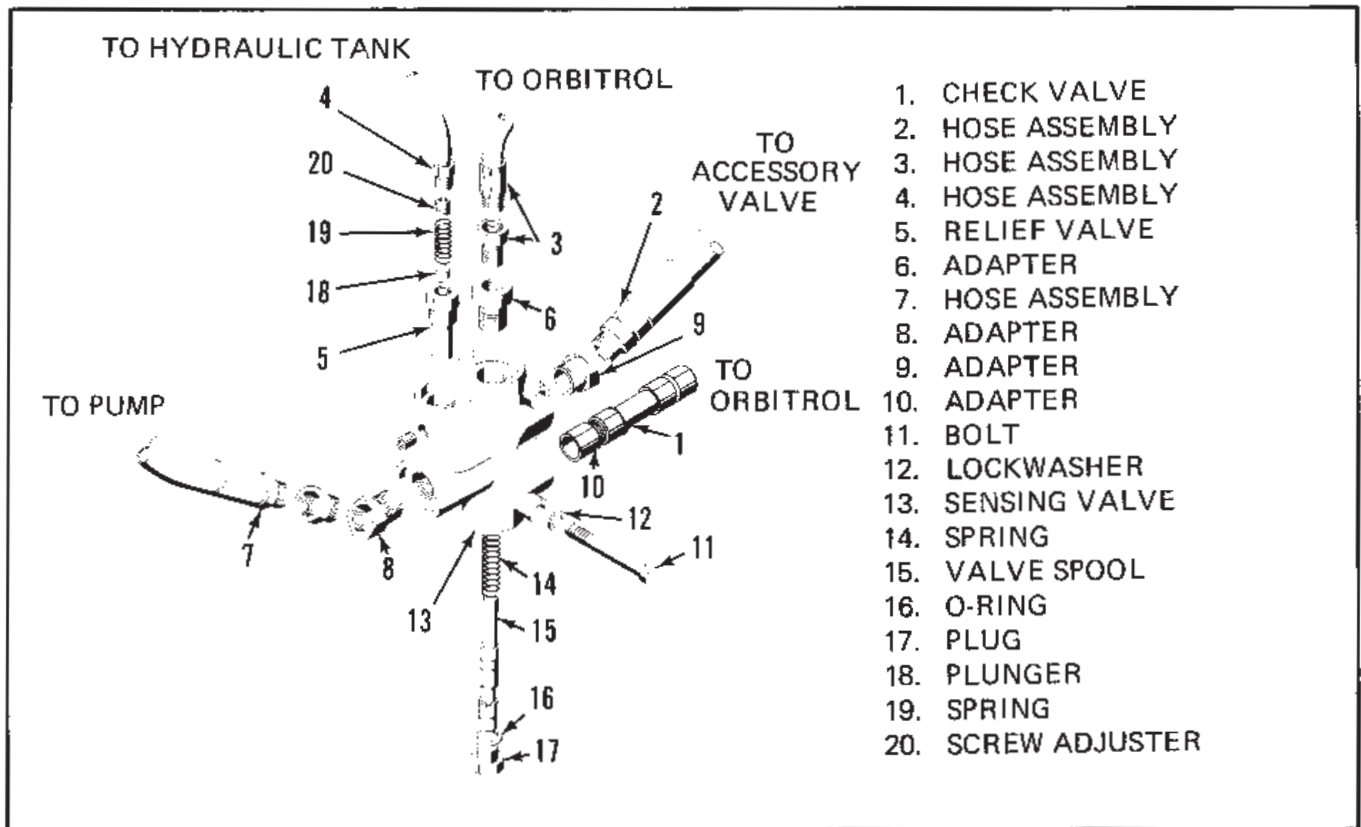

Figure 16-2. Steering Demand Sensing Valve
1. General. The Demand Sensing Valve performs the function of diverting oil to the steering orbitrol to perform the steering functions. When the steering wheel is turned, it causes a drop in the oil pressure in line (3) (figure 16-2). This permits the valve spool (15) to open allowing oil to be pumped directly to the steering orbitrol through line (1) where it is directed to the steer cylinders. When the steering wheel stops rotating the pressure in line (3) rises and closes the valve spool which shuts off the oil flow to the orbitrol and essentially locks the steer cylinders at their present position.
STEERING DEMAND SENSING VALVE (Figure 16-2).
- b. Remove bolts and lockwashers (11 and 12) to remove sensing valve (13).
2. SERVICE (Figure 16-2)